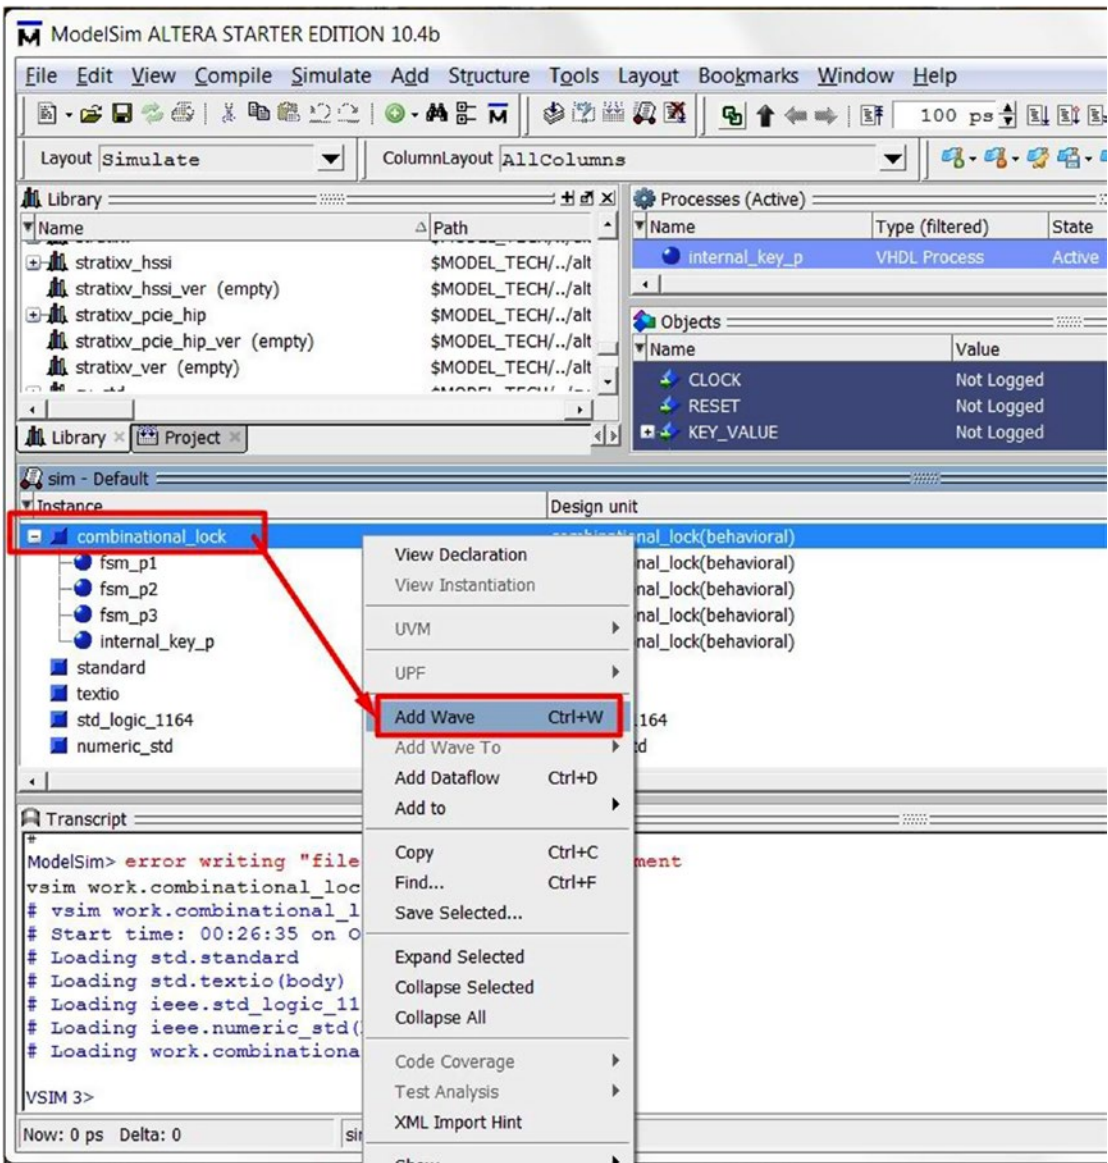
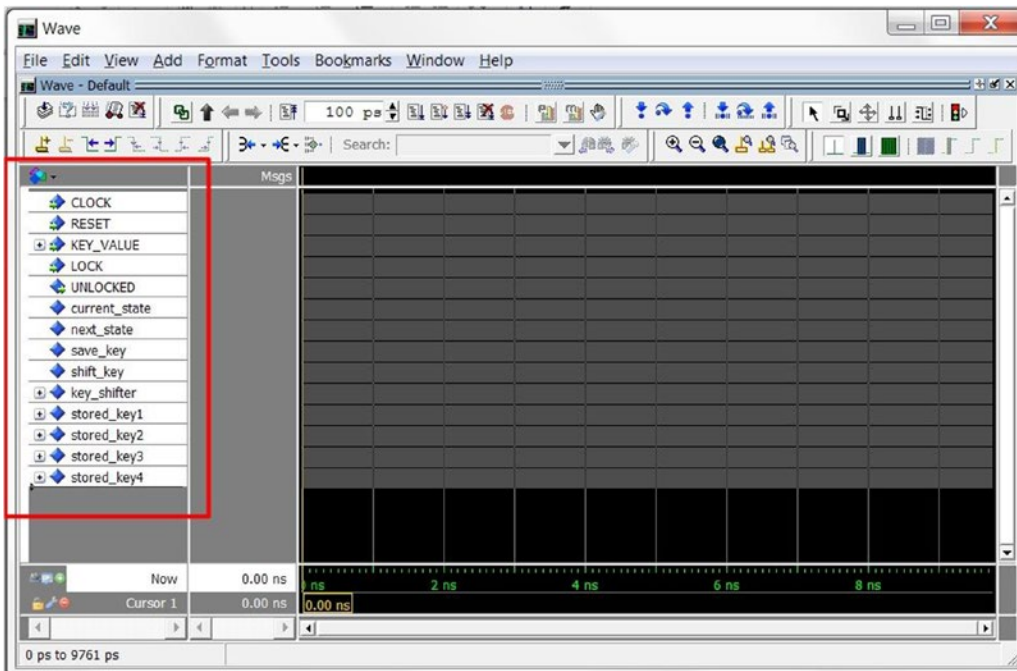

Figure 11-17. Add all of the signals to the wave window
Figure 11-18. Wave window with all the signals of combinational lock design
5. Add all of the combinational_lock signals to the wave window by right-clicking the combinational lock in the Sim box in the ModelSim window (Figure 11-17) or run the following script in the Transcript window. The wave window will be updated as in Figure 11-18